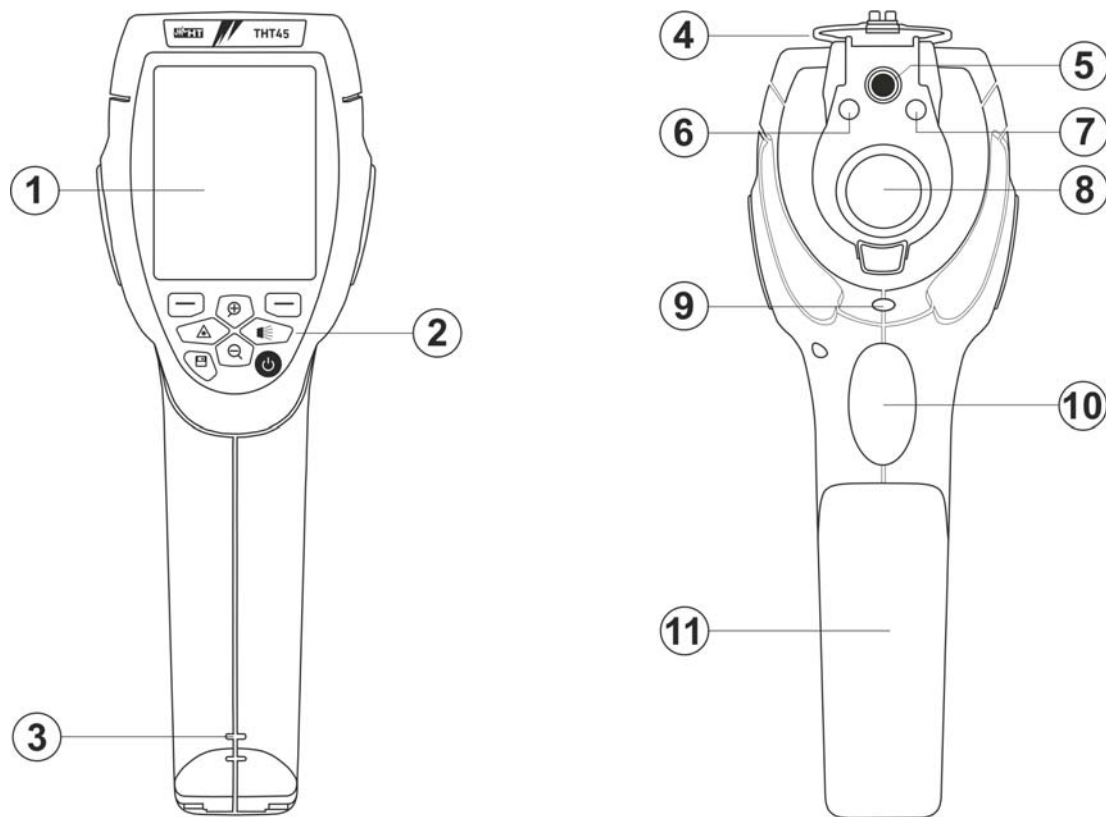

Fig. 1: Description of the instrument's front and backside
2. Lift the battery compartment cover (see Fig. 1 – part 11)
Pressing and hold the key  allows activating/deactivating the internal illuminator (see Fig. 1 – Part 6). The same key is also used for the selection of system parameters.
Pressing and hold the key  allows activating/deactivating the laser pointer (see Fig. 1 – Part 7). The same key is also used for the selection of system parameters.